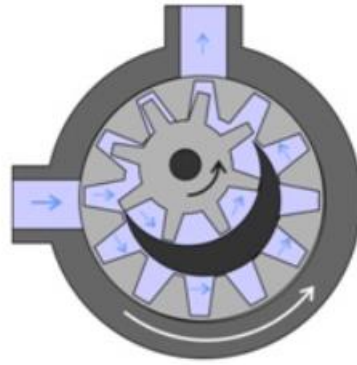

Fig.3.3 – Internal gear pump
- ▶ It comprises an internal gear, a regular spur gear, a crescent-shaped seal, and external housing. The schematic of the internal gear pump is shown in Figure 3.3.